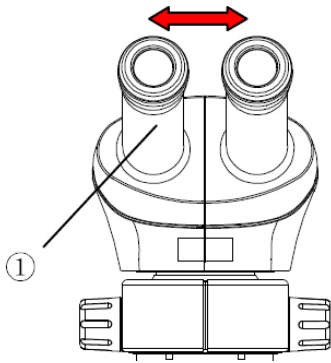

Fig.10
5.1.1 Adjusting interpupillary distance (Fig.10)